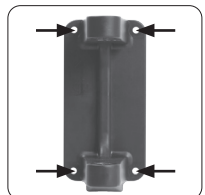

Fig. 1 Mounting Bracket
5. Drill 4 x M8 holes to match the holes located in the Mounting Bracket. (Fig. 1)